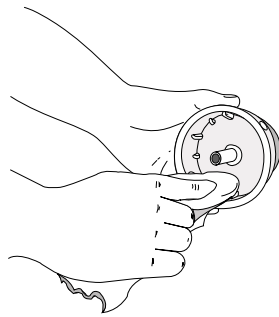

Fig. 15
4. Use a clean cloth to clean the the inner reel, spring, shaft, and inner surface of the outer spool (Fig. 15).